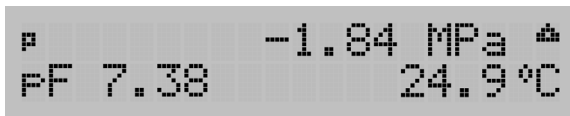

Figure 1 Display with triangular warning sign
- Consult troubleshooting (Section 4.5) if the triangular warning symbol appears in the top right corner of the display (Figure 1).